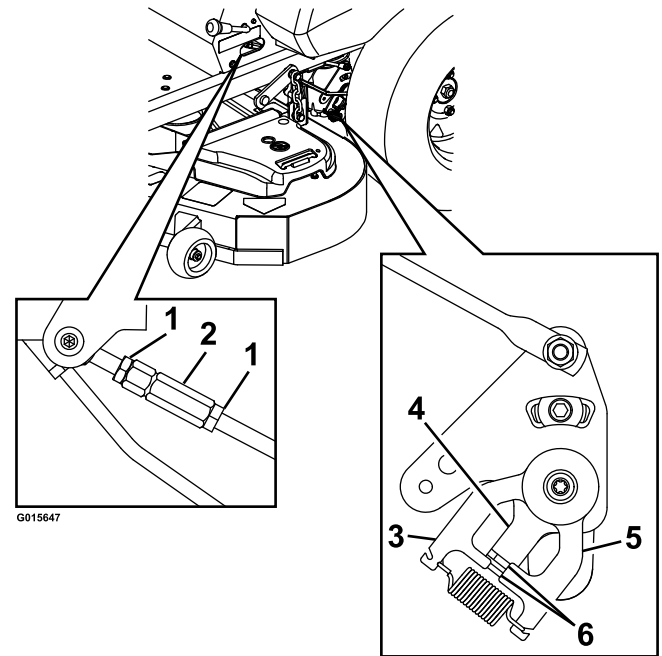

Figure 31
7. Bring the motion control levers into the neutral position. The control plate tabs should touch the return to neutral plates on the hydros. Adjust pump control rod lengths by loosening the nuts and rotating the turnbuckle in the appropriate direction until the wheels slightly creep in reverse (Figure 31). Move the motion control levers to the reverse position and while applying slight pressure to the lever allow the reverse indicator springs to bring the levers back to neutral. The wheels must stop turning or slightly creep in reverse.